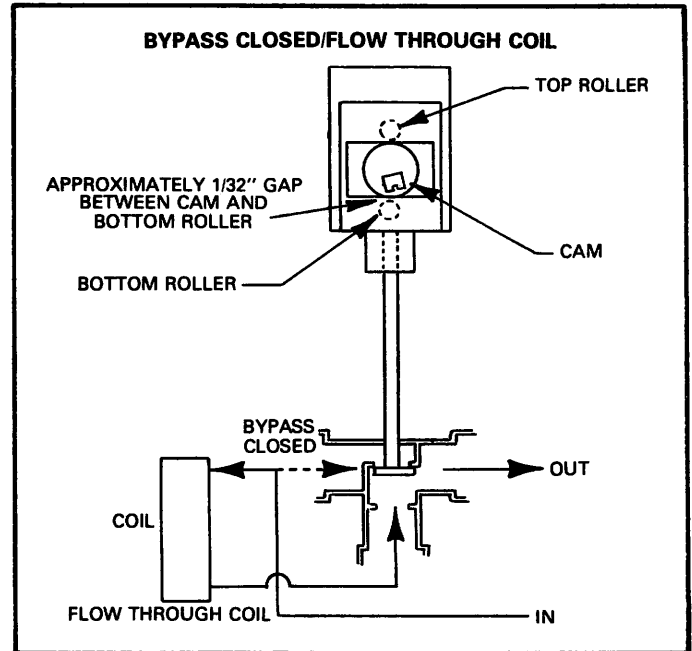

FIGURE 20
- 3 - Using load simulator, set command voltage to 2 VDC (full heat). Valve motor shaft should rotate clockwise, raising valve stem. Refer to Figure 20.